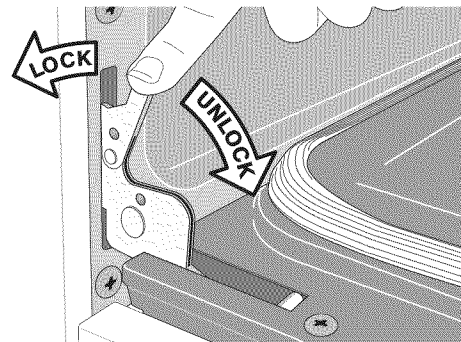

Figure 10: Door hinge locks
2. Pull the door hinge locks on both left and right door hinges down from the oven frame completely toward the oven door (See Figure 10). A tool such as a small flat-blade screwdriver may be required.
4. Push the door hinge locks up toward and into the oven frame on both left and right oven door hinges to the locked position (Figure 10).